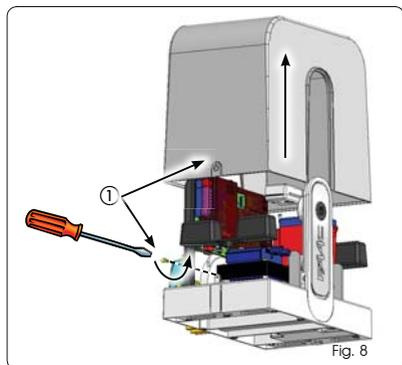

Fig. 8
1. Remove the cover casing by loosening the two suitable side bolts and lifting it (Fig. 8).
Fig. 8 and Fig. 9 refer to operator C720